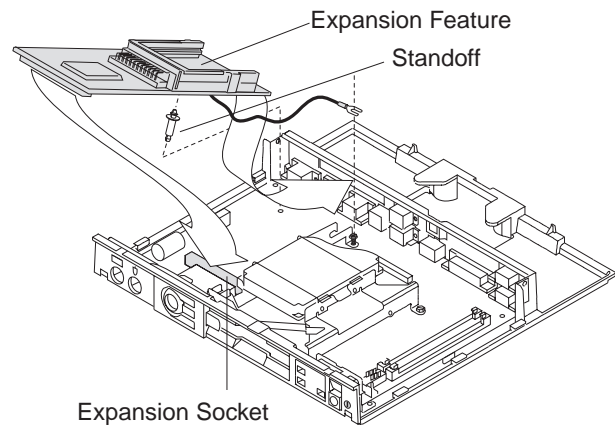

Figure 3-41. Installing the Expansion Feature
- 2 Plug the standoff into the feature card. See Figure 3-41.